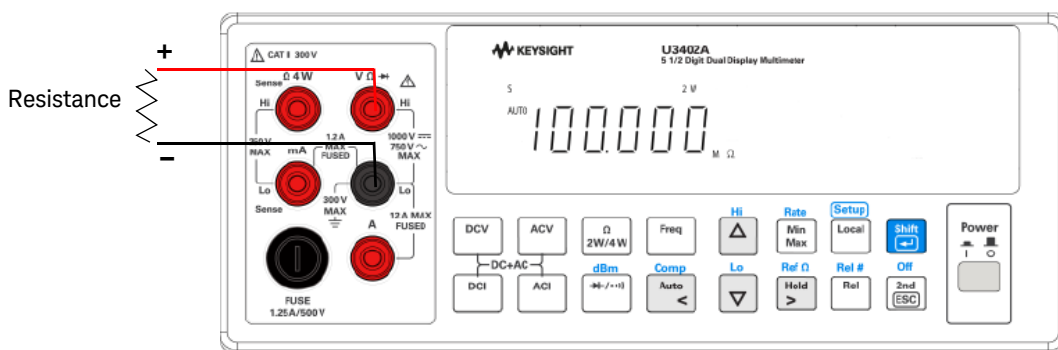

Figure 3-5 Terminal connection when measuring resistance using 2-wire mode
- 1 Connect the red and black test leads to the resistor and probe the test points as shown in Figure 3-5.